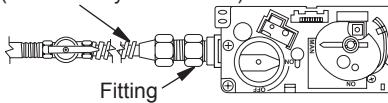

Figure 10 - Attaching Flexible Gas Hose to Regulator
1. Apply pipe joint sealant lightly to male threads of gas fitting (not provided). Connect approved flexible gas hose to inlet side of gas control (see Figure 10). **IMPORTANT:** Hold gas fitting with wrench when connecting flexible gas hose.